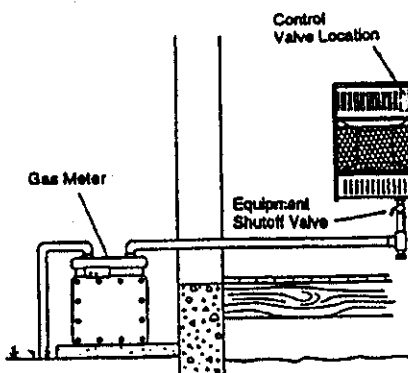

Figure 15-Checking Gas Joints
3. Check all joints from gas meter to equipment shutoff valve (see Figure 15). Apply mixture of liquid soap and water to gas joints. Bubbles forming show a leak.
4. Check all joints from equipment shutoff valve to control valve (see Figure 15). Apply mixture of liquid soap and water to gas joints. Bubbles forming show a leak.